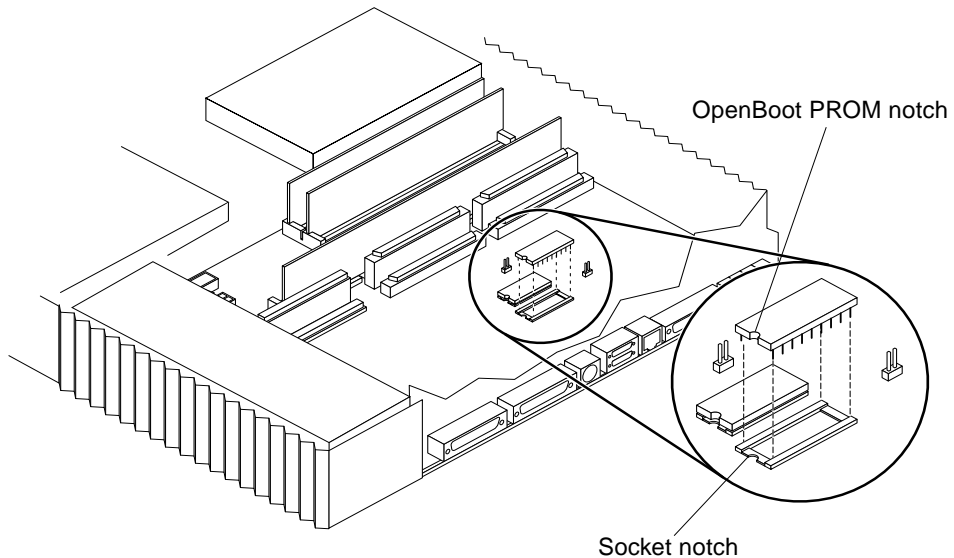

FIGURE 11-44 OpenBoot PROM Orientation
1. **Hold the OpenBoot PROM by the edges and align the notch on the OpenBoot PROM with the notch on the socket (FIGURE 11-44).**